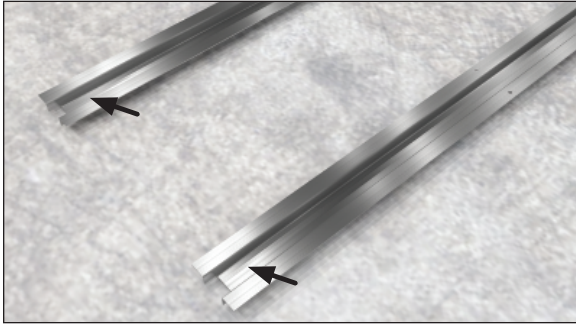

Fig. 4 Seismic anchoring locations (sled runners)
8. (SLED RUNNERS) If necessary, drill a hole in each end of every horizontal support (Fig. 4) and fasten to the floor with concrete anchors. **Note: The holes do not need to be in the exact locations specified here. Be sure that the anchors are close to the end of the horizontal supports and at each corner of the case.**